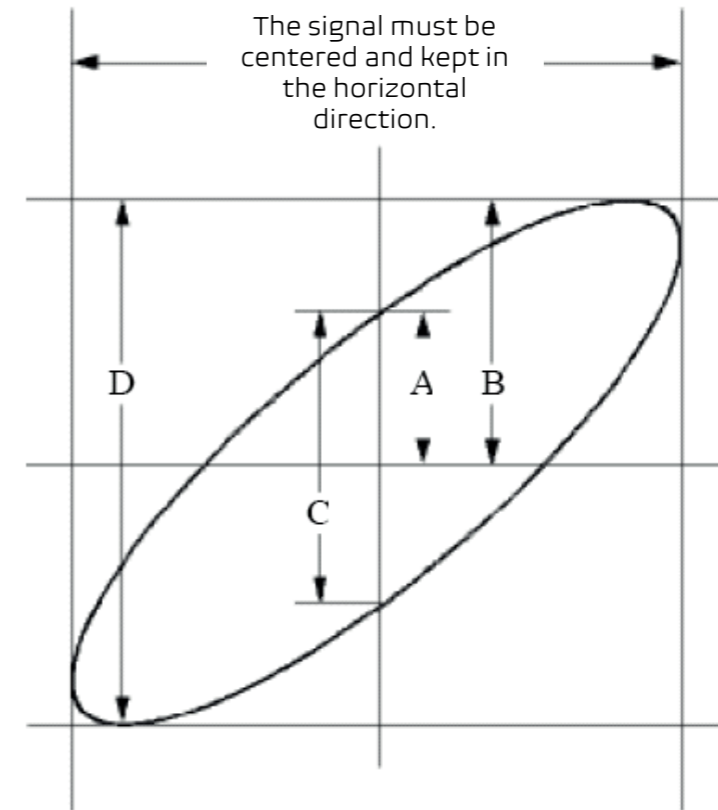

Figure 9-6 Lissajous Graph
- (1) Set the probe menu attenuation coefficient for **10X** and that of the switch in the probe for **10X** (see "How to Set the Probe Attenuation Coefficient" on P15).
- (2) Connect the probe of channel 1 to the input of the network and that of Channel 2 to the output of the network.
- (3) Push the CH1 to CH4 button to turn on CH1 and CH2, turn off CH3 and CH4.
- (4) Push the **Autoset** button, with the oscilloscope turning on the signals of the two channels and displaying them in the screen.
- (5) Push **CH1** button to select CH1, turn the **Vertical Scale** knob, and then push **CH2** button to select CH2, turn the **Vertical Scale** knob, making the amplitudes of two signals equal in the rough.
- (6) Push the **Display** button and recall the Display menu.
- (7) Select XY Mode in the bottom menu. Select **Enable** as **ON** in the right menu. The oscilloscope will display the input and terminal characteristics of the network in the Lissajous graph form.
- (8) Turn the **Vertical Scale** and **Vertical Position** knobs, optimizing the waveform.
- (9) With the elliptical oscillogram method adopted, observe and calculate the phase difference (see Figure 9-6).